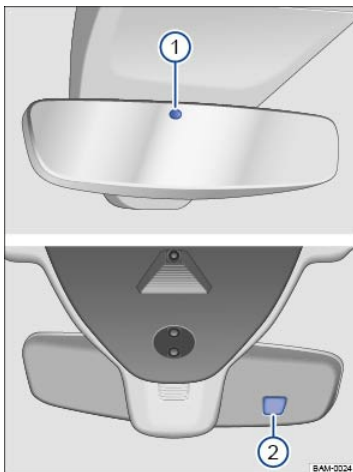

Fig. 99 On the windshield: Self-dimming rearview mirror.
When the ignition is switched on, the sensors on the mirror measure the amount of light shining into the vehicle from the rear ⇒ Fig. 99① and from the front ⇒ Fig. 99② of the vehicle.